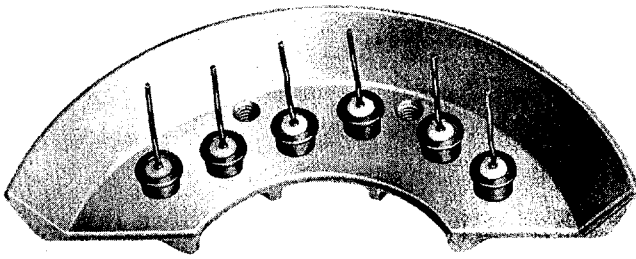

Figure 3
(1) The slip ring end head provides the mounting for the rectifier-heat sink assemblies, the output, auxiliary and ground terminal studs, brush holder and brush assemblies and the slip ring end bearing. The 8000 series units attach the blast tube assembly to the slip ring end head.
(2) The rectifier and heat sink assemblies (Figure 3), used in these units, are different in construction from those used in any other Prestolite aircraft alternator. Each heat sink has six (6) rectifiers of one polarity attached to it. Each stator lead connects to four